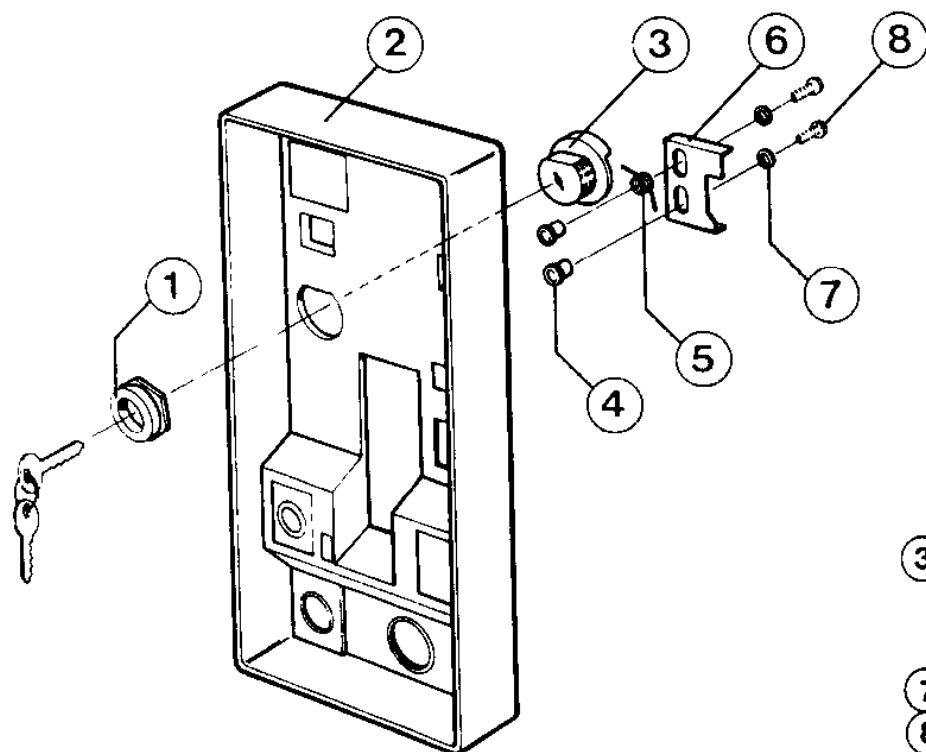

Fig. 35 Montaggio blocco a chiave
- 1) Remove the flange (2) (see fig. 35) from the operating mechanism.
- 3) Insert the cylinder (3) into the hole which is freed as shown in the figure, and fix it at the front with the ring nut (1).
- 5) Mount the spring (5) on the hub specially made on the flange and fix the plate (6) using the bushes (4), the washers (7) and the screws (8).
- 6) Carry out a few operations with the key to make sure that the plate (6) slides freely.
- 7) With the device in the unlocked position (plate (6) lifted and key locked), remount the flange (2) on the operating mechanism.
- a) Turn the key so that the plate (6) is lowered and the opening lever (9) therefore rotates and then check that the circuit-breaker opens (if closed previously) and that the closing operation is, in any case, prevented. This condition must allow the key to be withdrawn.